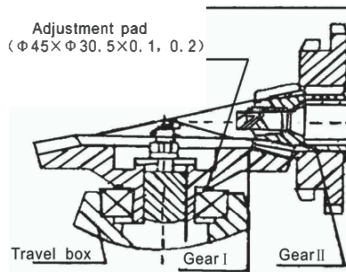

Figure 10: schematic diagram of bevel gear structure in gear box
1. Clearance adjustment of mesh of angel gear in gear-box (See Figure 10)